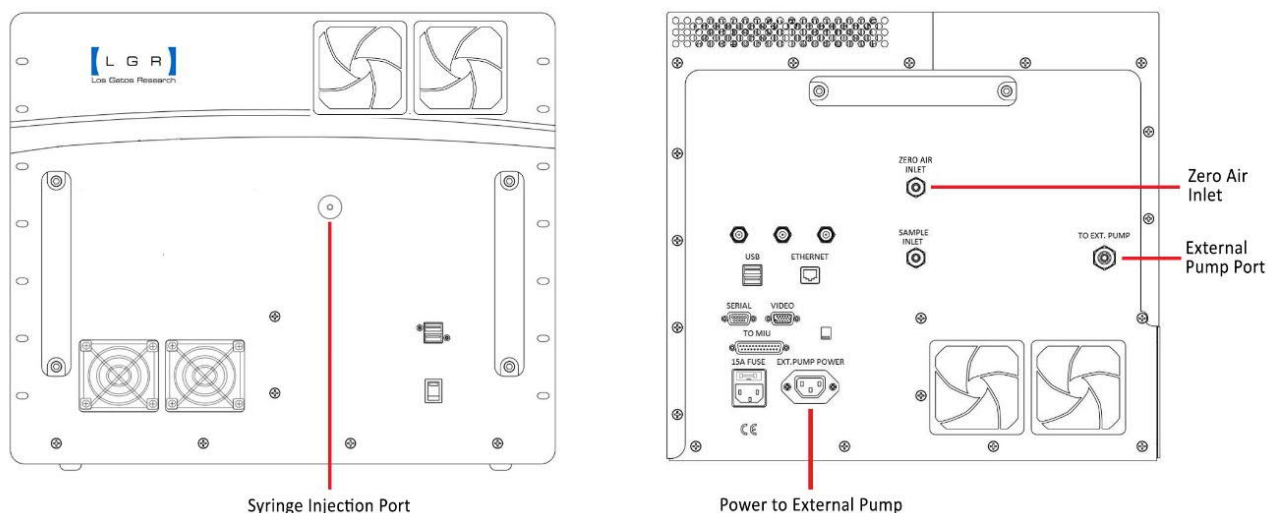

Figure 106: External Batch Connections for a 911 Series Analyzer
- Additional ports on the front and back panels of the analyzer. (Figure 106)
2. Connect your Zero-Air source to the 1/4" Swagelok Zero-Air Inlet port on the back panel of the analyzer. (Figure 106)